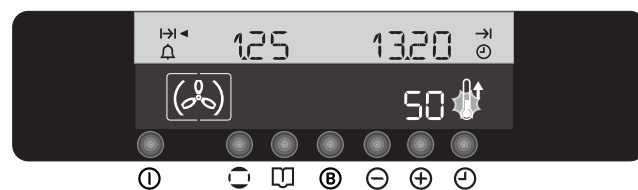

Fig. 24
3. When 5 seconds elapse, symbol  disappears showing that the temperature level has been stored in the Electronic Control memory. The thermometer symbol rises slowly , indicating the degree to which the oven is currently heated. The upper section of the display will now show the cooking duration at the left hand and the end of cooking time at the right hand (Fig. 24).